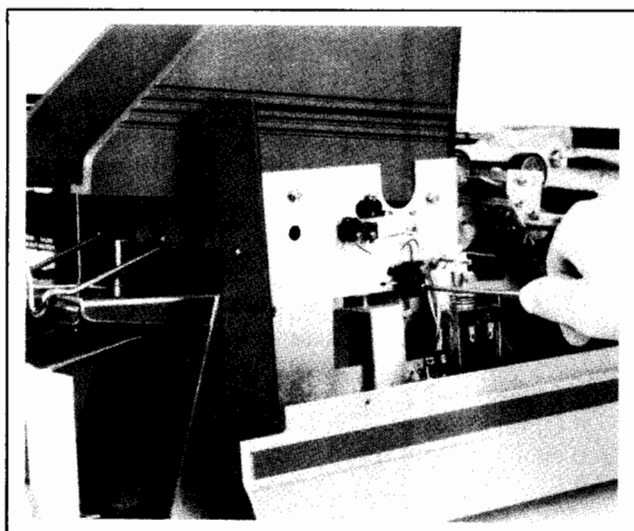

Figure 5-14. Output Hopper Switch Adjustment
- c. Position microswitch towards card stop lever until switch closes. Tighten microswitch down. See Figure 5-14.